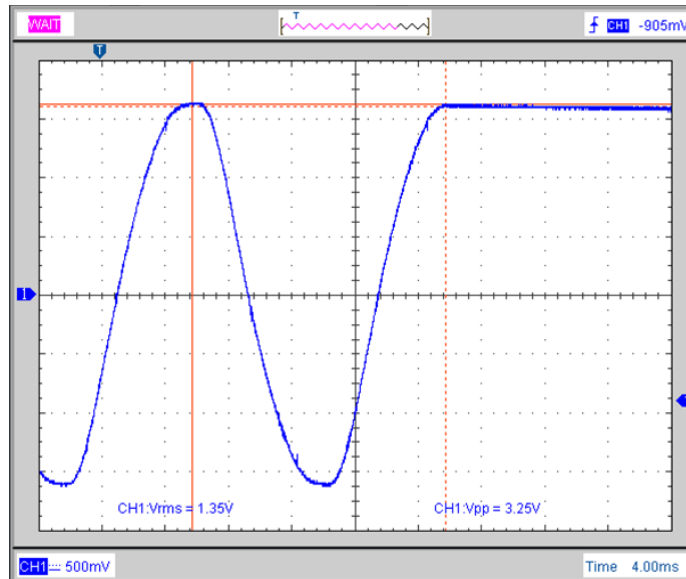

Figure 8. Example of Sine Wave disconnected on peak.
- 7.2. All measurements are positive peak disconnect (POS) unless otherwise specified. An example of a very accurate disconnect is shown below in **Figure 8**.
- 7.5.5.1. Expected Value: Value of previous positive Sine Wave Peak, as it shown it in **Figure 8**.